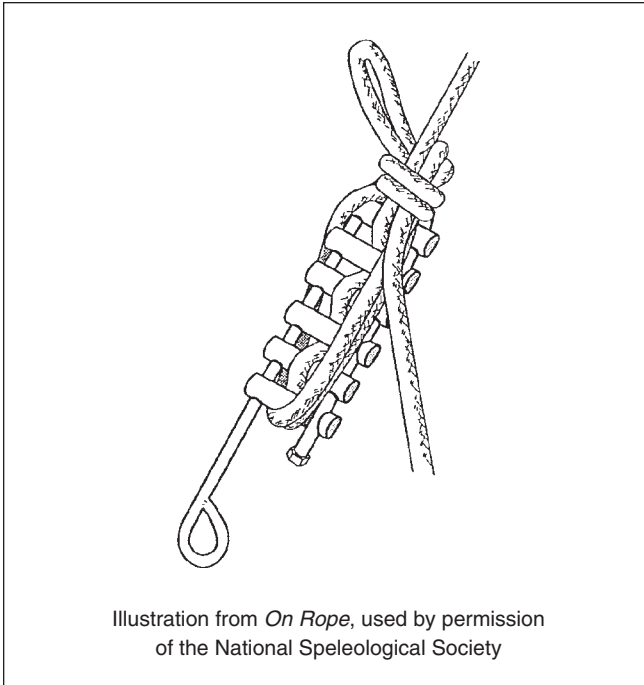

Figure 6n—Locking off the rappel rack—lockoff secured.
- D. If you will be moving around with your hands off the rope while you are tied off, further secure the lockoff by tying an overhand knot or two half-hitches around the standing part of the rope with a bight from the running part of the rope (figure 6n).